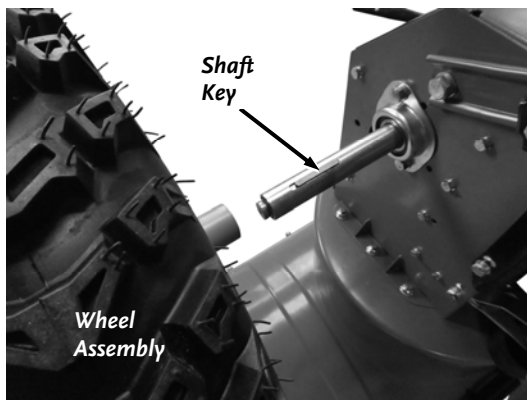

Figure 70
5. Remove both Wheels and Shaft Keys from the Axle Shafts (**Figure 70**).
12. Install both and Shaft Keys and Wheels onto the Axle Shafts (**Figure 70**).